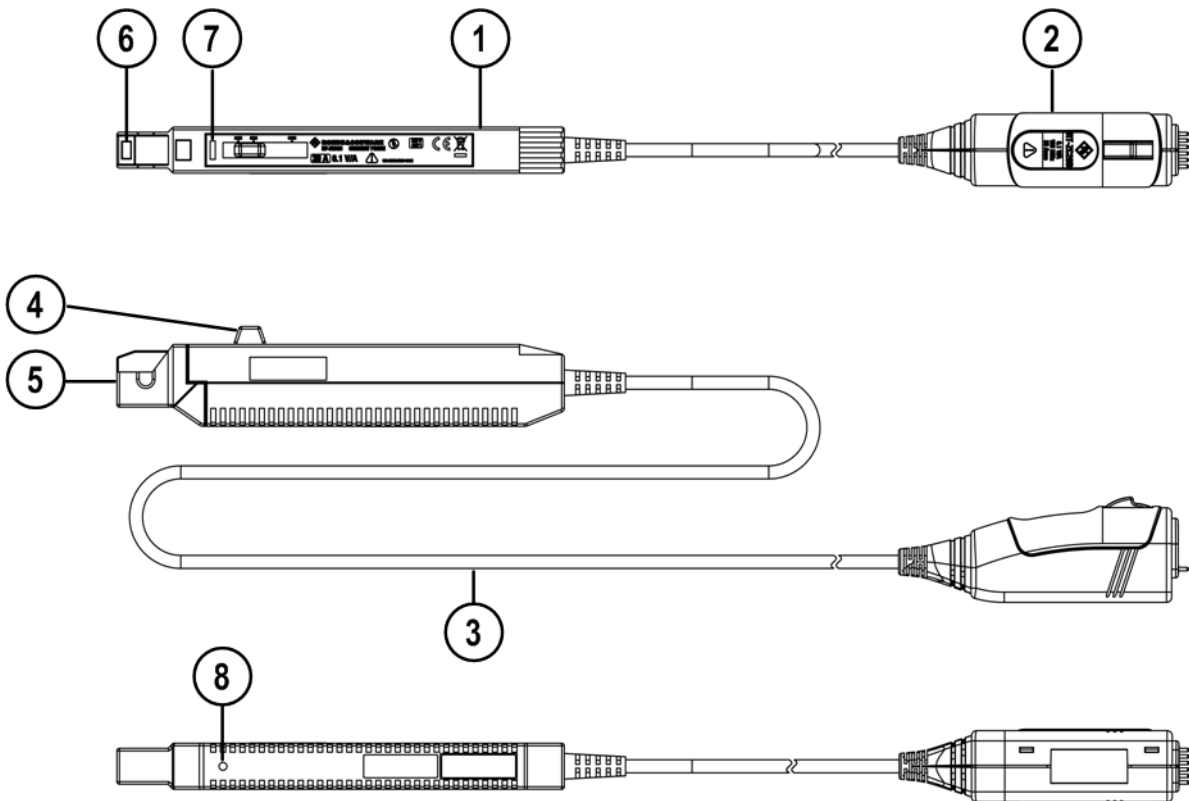

Fig. 2-1: Overview of the R&S RT-ZC20B current probe
8. If zero adjustment is not possible, turn the coarse adjustment trimmer to bring the waveform within the range of zero adjustment (see figure 2-1 on page 11).